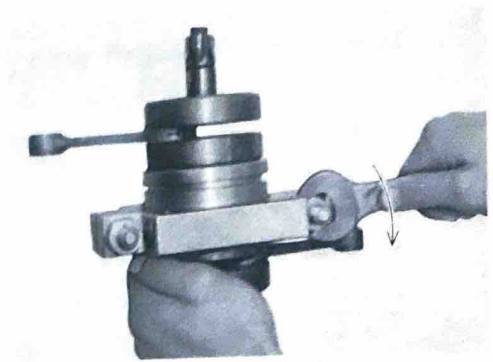

Fig. 4-17-6
- 2) Fully tighten the bolts of tool (1) and (2). Failure to tighten the bolts completely can result in tool failure. (Fig. 4-17-6)